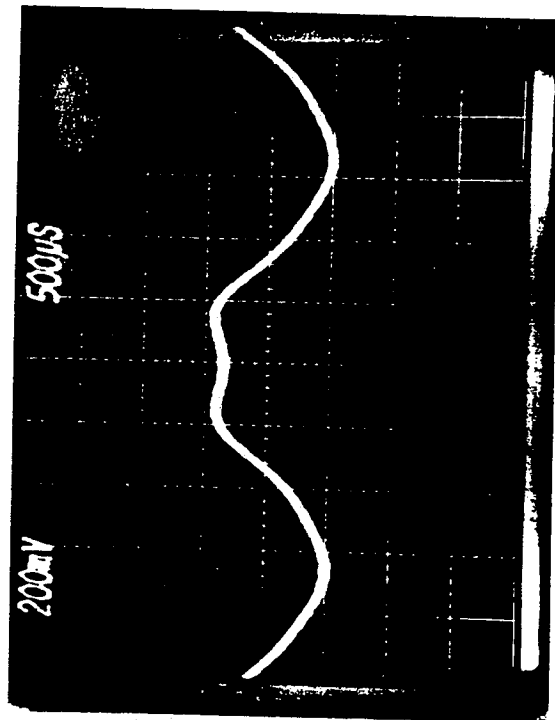

Figure 5-7
1. Check "PA"; it should be approximately as shown in Figure 5-7.